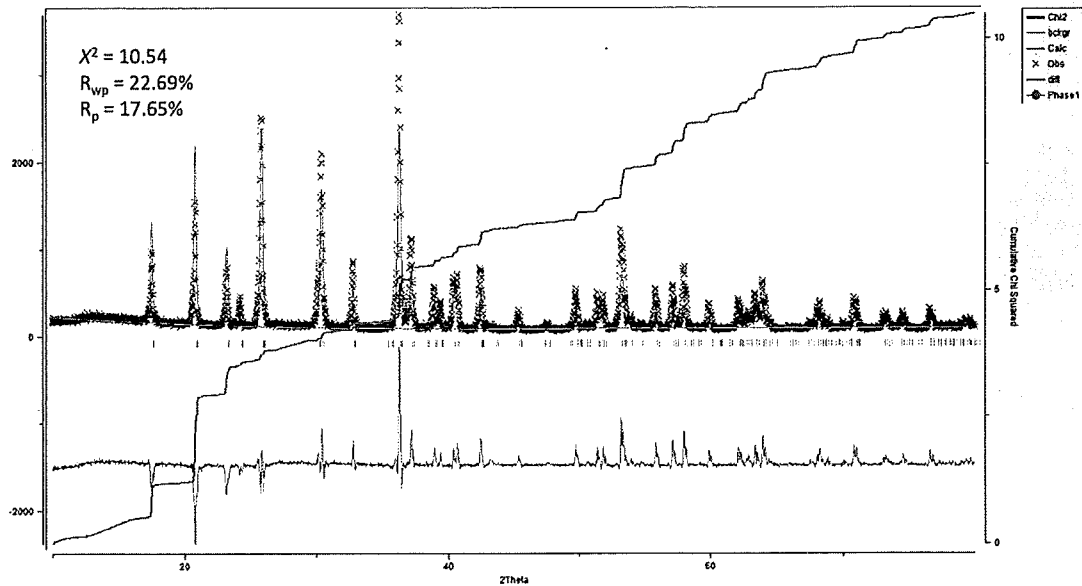

Figure 2
- [d] Analyze the Rietveld refinement in Figure 2.